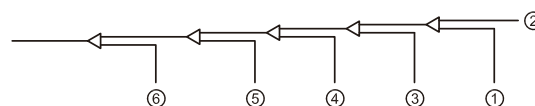

Figure 14-19
8. Flush the other openings in the same manner, working in sequence from indoor unit A towards the outdoor units. Refer to Fig.14-19.